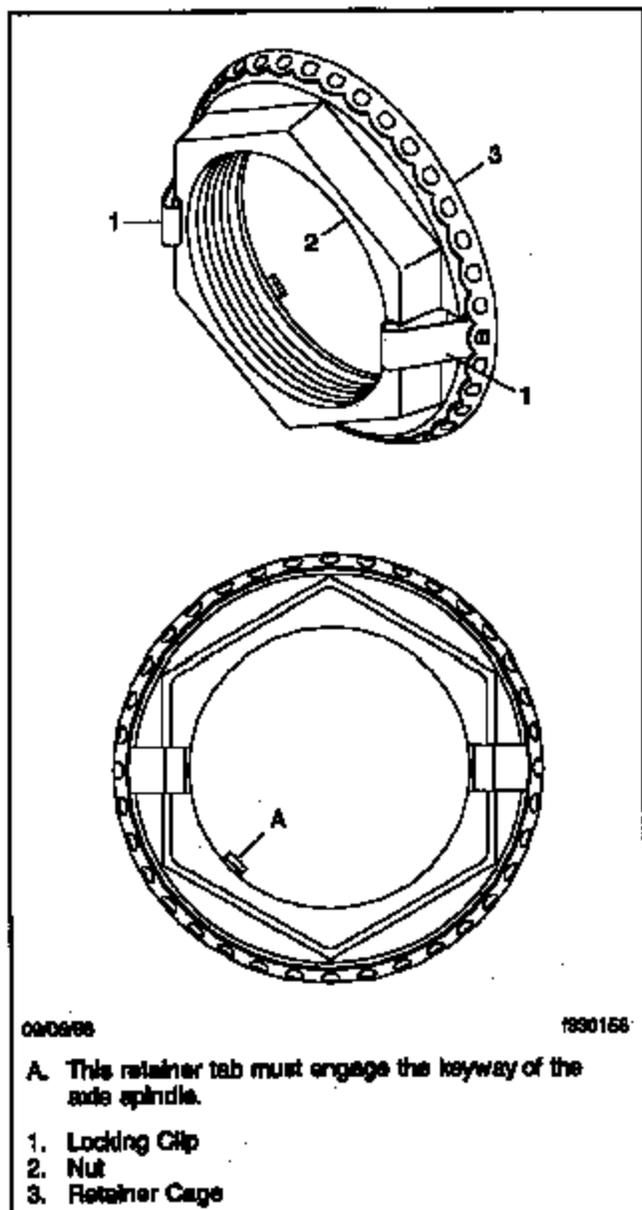
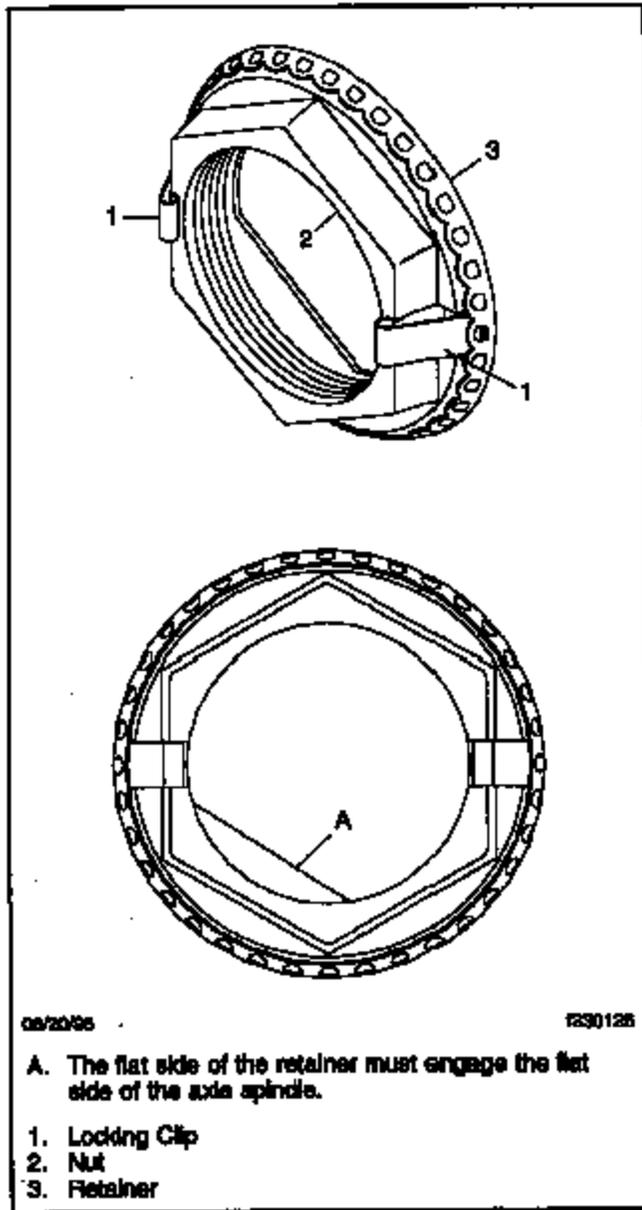

Fig. 3, Axlok Retaining Nut, Eaton Front Axle
Fig. 4, Axlok Retaining Nut, Meritor Front Axle
2. Remove the Axlok nut (see Fig. 3 or Fig. 4).
8. Install the Axlok retaining nut (see Fig. 3 or Fig. 4) onto the axle spindle.